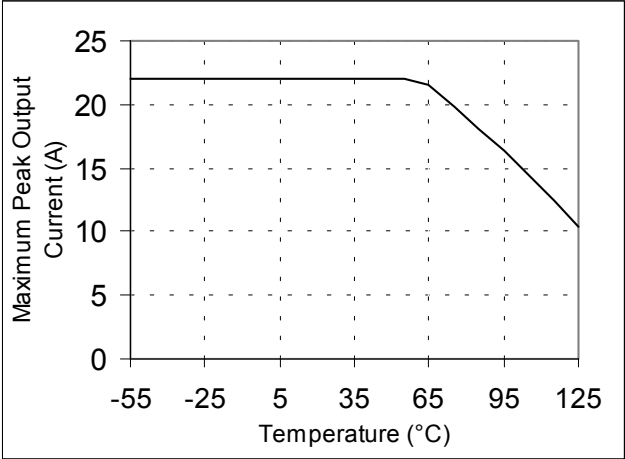

Figure 6. Maximum Non-repetitive Output Current vs. Case Temperature (pulse width ≤ 10 ms).
1. Non-repetitive, pulse width $\leq 10\text{ms}$, $T_C = 25^\circ\text{C}$ (see Figure 6).